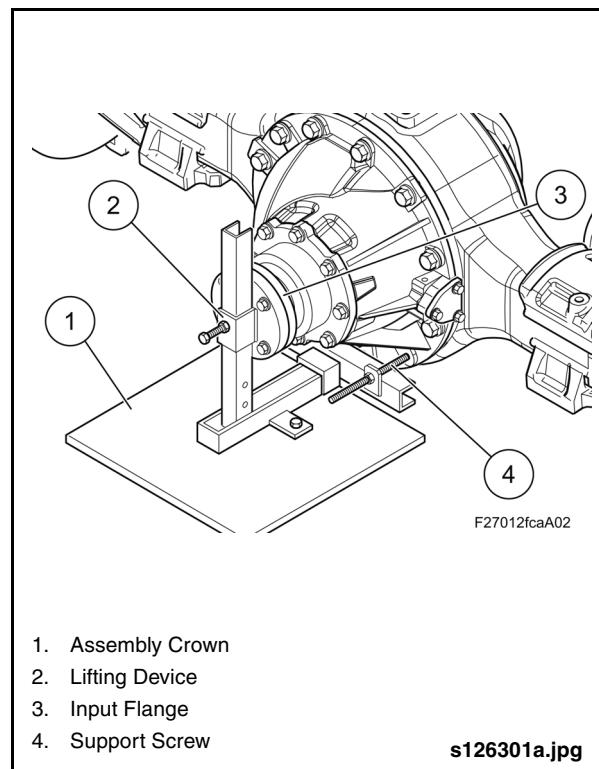

Fig. 2-42: Differential Carrier Lifting Device
1. Mount the Lifting Device (Item 36 from Special Tools List) on the Assembly Crown (Item 37 from Special Tools List). See “Fig. 2-42: Differential Carrier Lifting Device” on page 38.